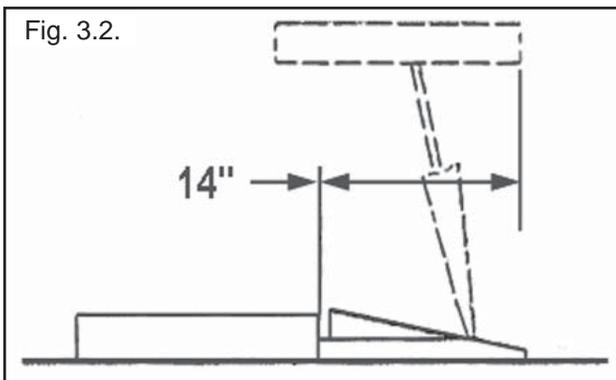

Fig. 3.2.
2. Remember that the lift moves rearward approximately 14" when raised. (See Fig 3.2)